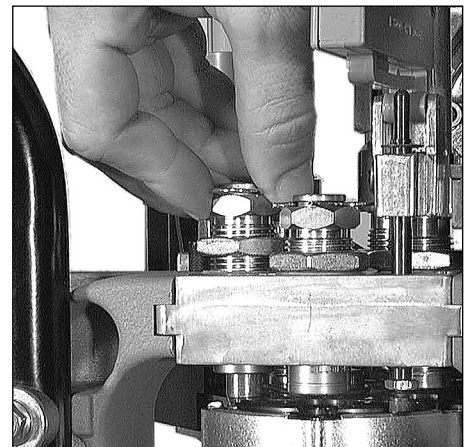

FIG 69
3. Raise the platform and continue to screw the die down until it touches the cartridge FIG 69.